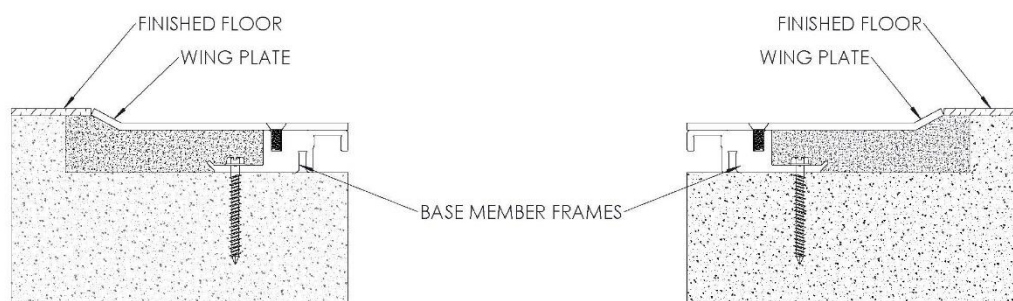

FIGURE 5
5. Finish floor may be installed after grout has cured. **See Figure 5**